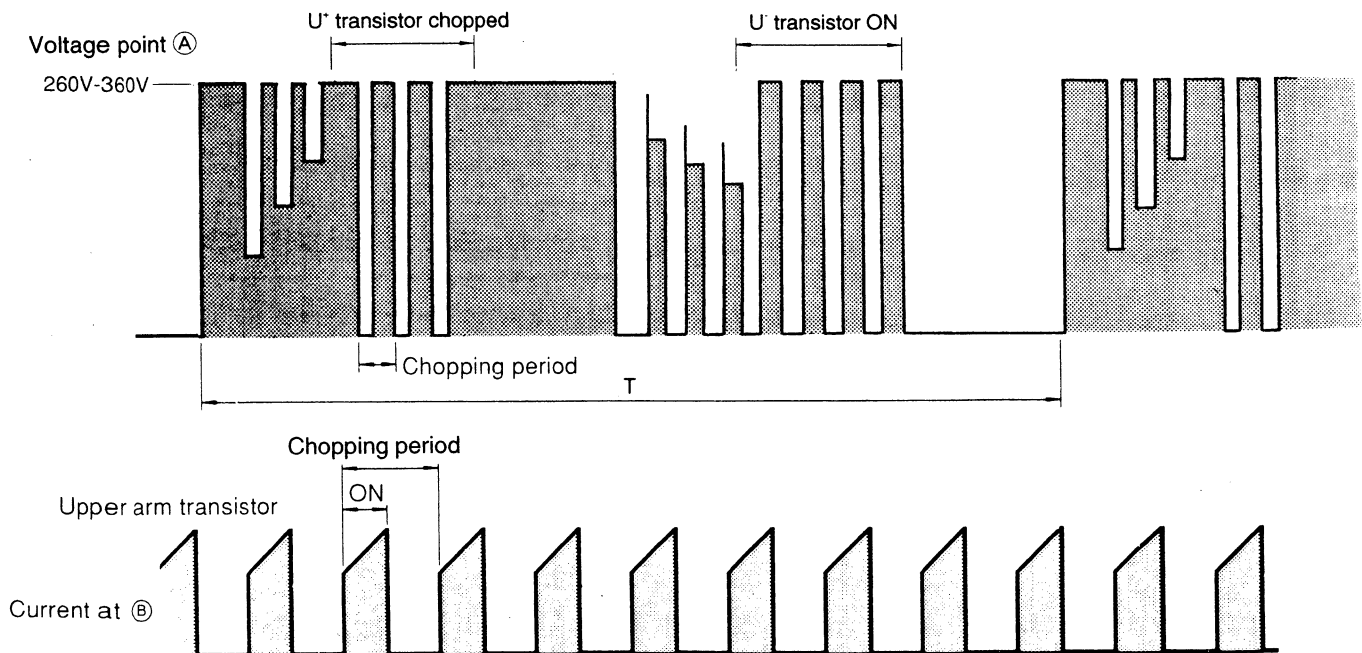

Fig. 3-3 Voltage waveform at each point
- Fig. 3-3 shows voltage/current waveform at each point shown in Figs.3-1 and 3-4. First half of upper arm is chopper, second half is ON, and first half of lower arm is chopper, second half is ON.